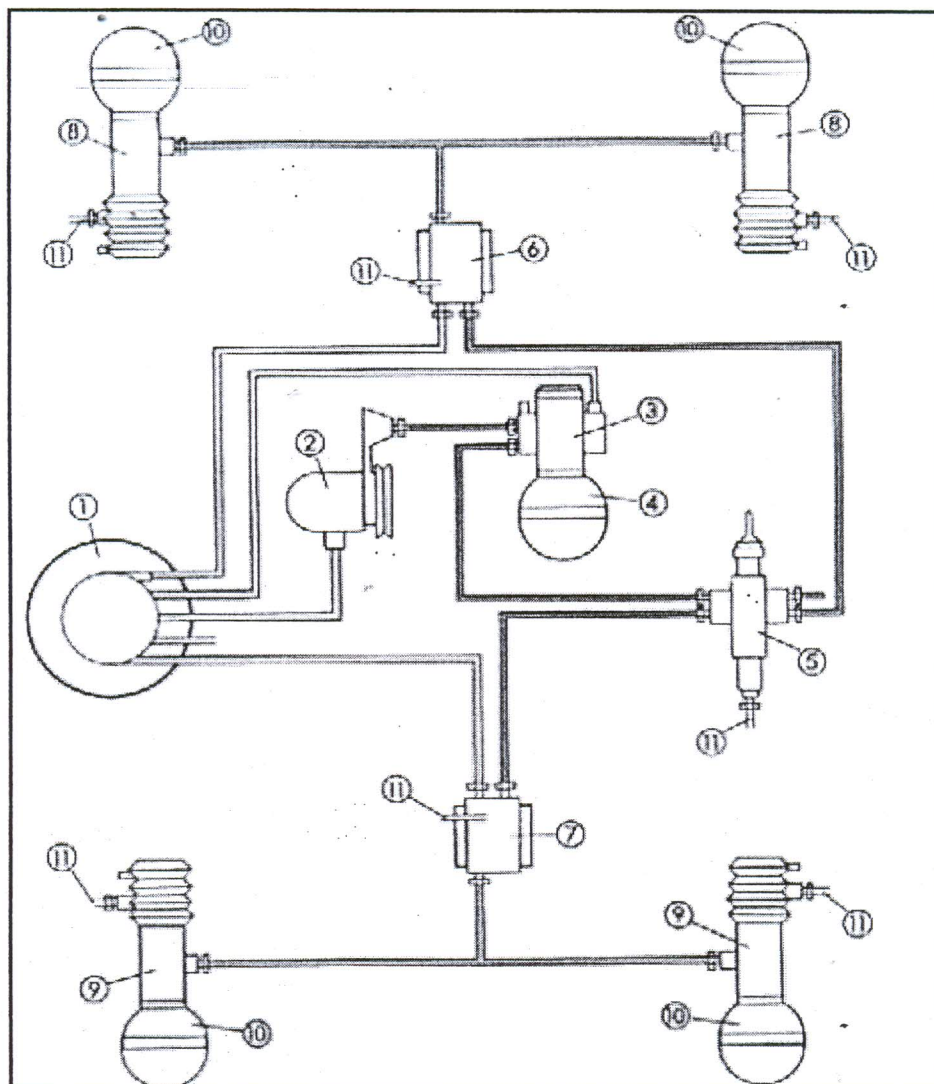

Figure 1:- Hydraulic Suspension System layout
- c) Explain the operation of the BX Hydractive Suspension System in figure 1 below. (12 marks)